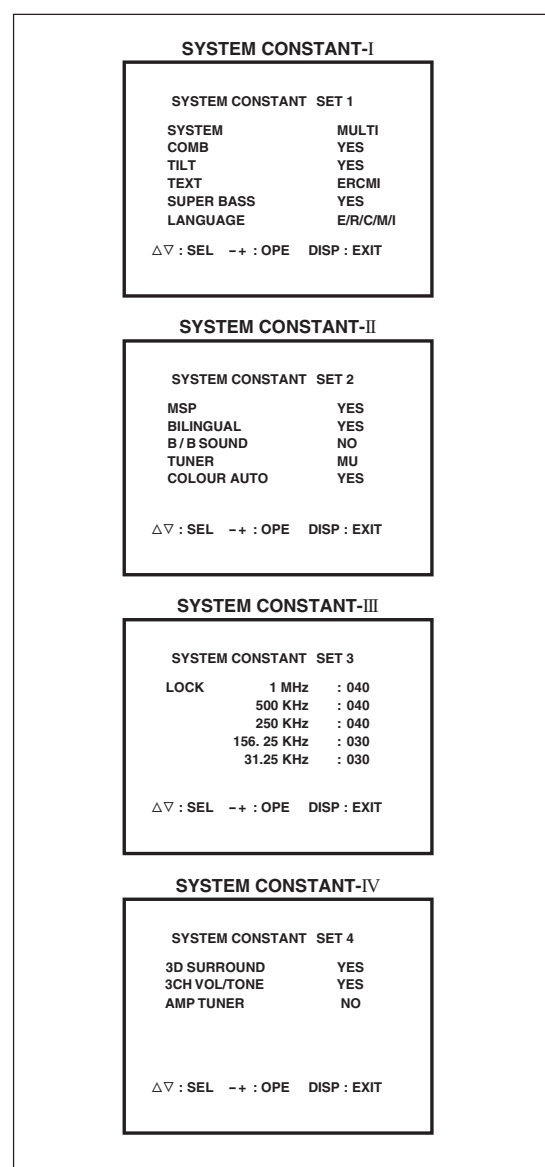

Fig. 2
1. While pushing down the 2 claws marked (E) as shown in Fig. 2 and pull out the Control base in the direction of arrow marked (F) as shown in Fig. 2, the control base can be removed.(If necessary, take off the wire, connector's etc.)
- 2) In the SERVICE MENU, press the DISPLAY key and PICTURE MODE key simultaneously. Then, the SYSTEM CONSTANT SET screen will be displayed.(See Fig.2.)